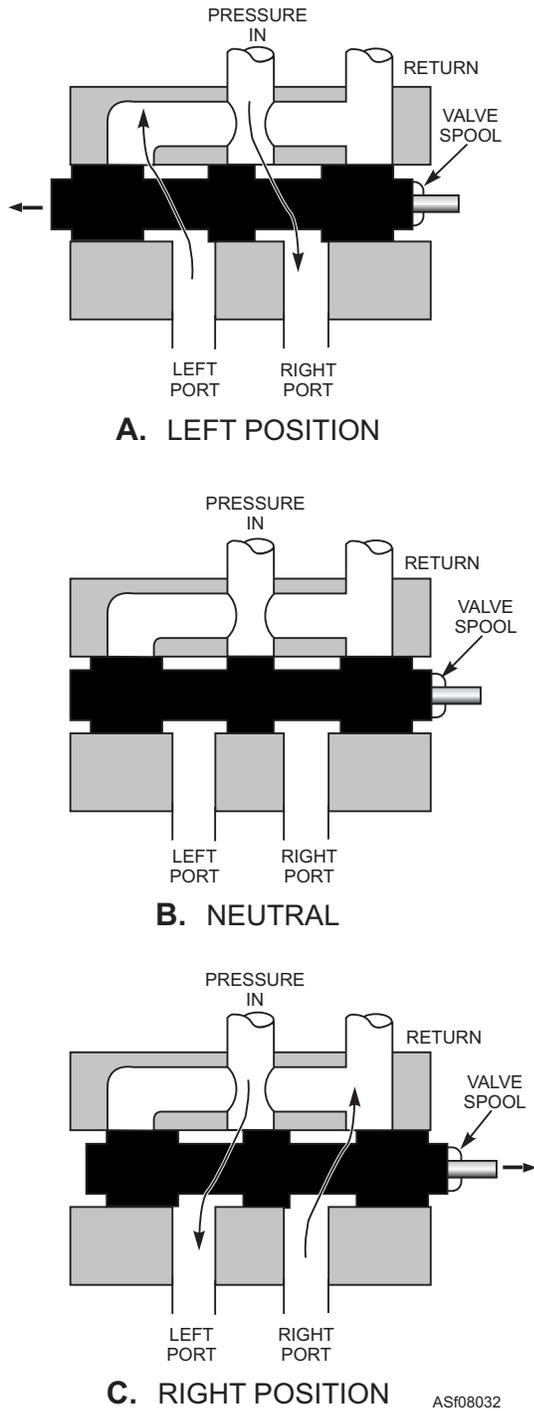

Figure 8-32.—Spool directional valve. ASf08032
**SLIDING SPOOLS.**—A sliding spool is probably the most common type of valve element used in directional control valves. Operation of the valve is illustrated in figure 8-32. The valve is so named because the shape of the valve element resembles that